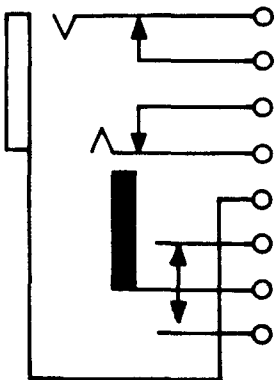

Fig. 8—362 Jack
2.08 **362:** This strip-mounted jack (Fig. 8) is used with 310 or similar-type plugs. This jack is also used with the 109, 110, 116, 131, 136, 137, 250A or similar-type jack mountings.